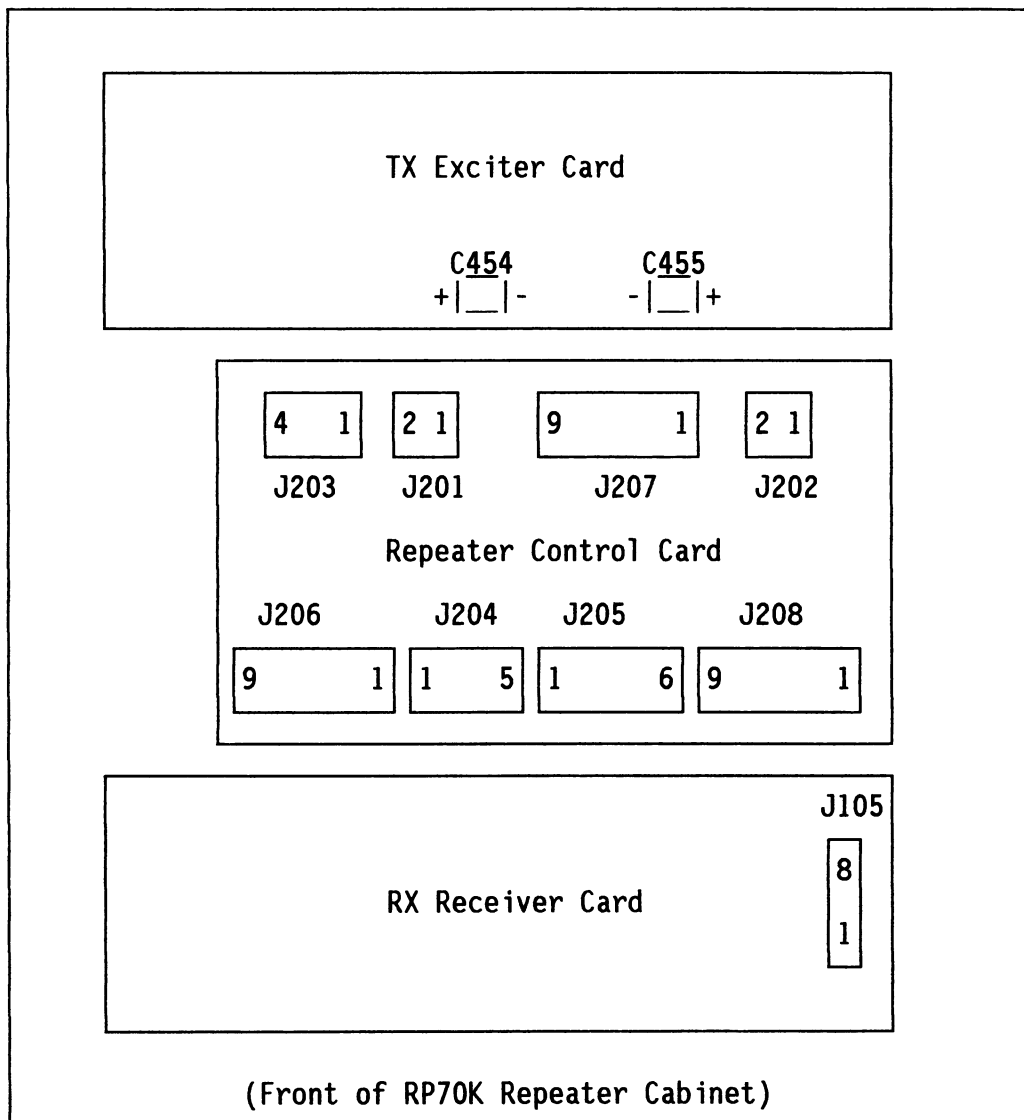

Figure 4-13. Layout of RP70K Cards and Connectors
- [3]. Unplug W201 from J201 on the Control Card. Slide the Yellow wire out of W201 pin 2. See Figure 4-13.